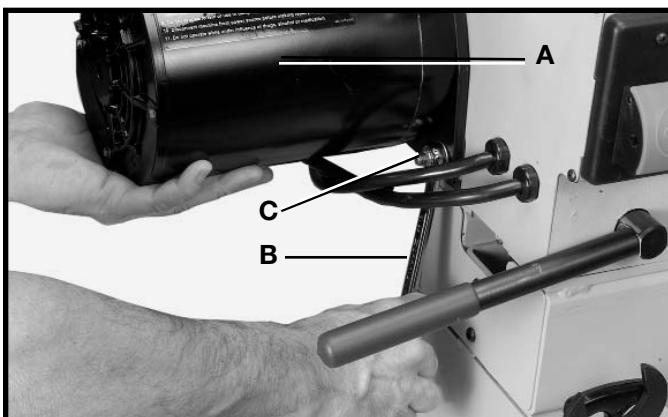
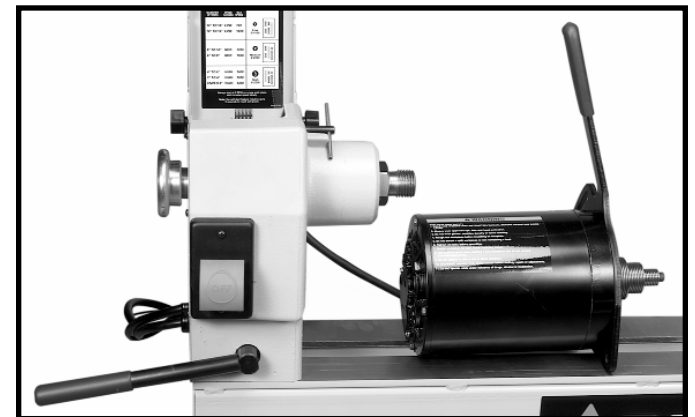

Fig. 73
Fig. 74
3. While holding the motor (A) Fig. 73 with one hand, use a 9/16" wrench (B) to remove nut (C). Lift motor (A) and remove belt from motor pulley.
4. Pull motor (A) Fig. 73 out, bring it around the back of the lathe, and place it on the lathe bed (Fig. 74)